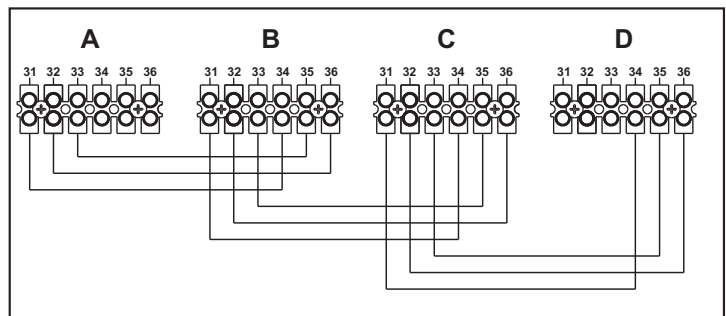

fig. 55 - Connection in cascade
1. Connect the modules as shown in fig. 55 (example con 4 modules)
If this does not occur, disconnect the power supply and check the wiring in fig. 55.